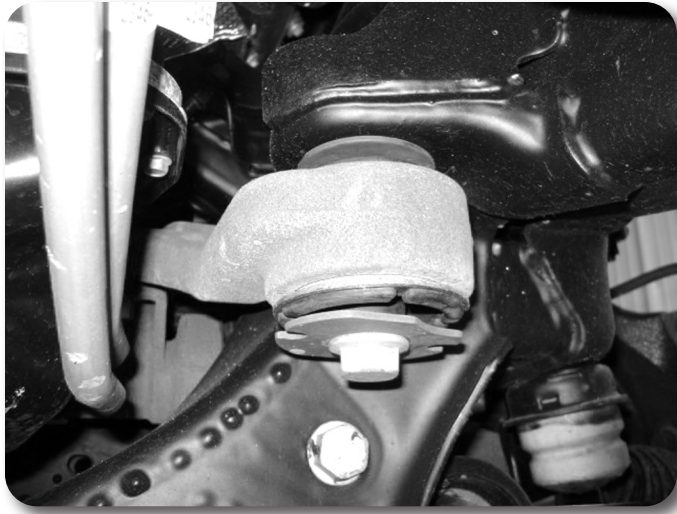

Figure 8
17. Work on one side of the vehicle at a time. Remove the hardware that attaches the differential mounts to the frame. **Figure 8**